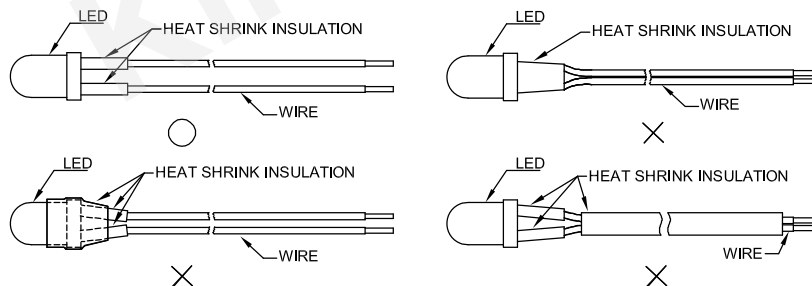

Fig. 2
- When soldering wires to the LED, each wire joint should be separately insulated with heat-shrink tube to prevent short-circuit contact. Do not bundle both wires in one heat shrink tube to avoid pinching the LED leads. Pinching stress on the LED leads may damage the internal structures and cause failure. (Fig. 2)